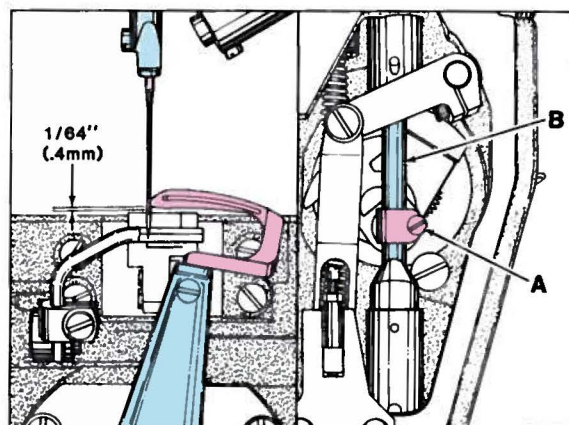

Fig. 8
Turn handwheel in operating direction until tip of looper is even with left side of needle. TOP of needle eye should be  $1/64$ " (.4mm) below TIP of looper (as shown in Fig. 8). Adjustment can be made by loosening screw (A, Fig. 8), move needle bar (B) up or down as required, retighten screw (A) to 8 in-lbs (9.22cm/kg).